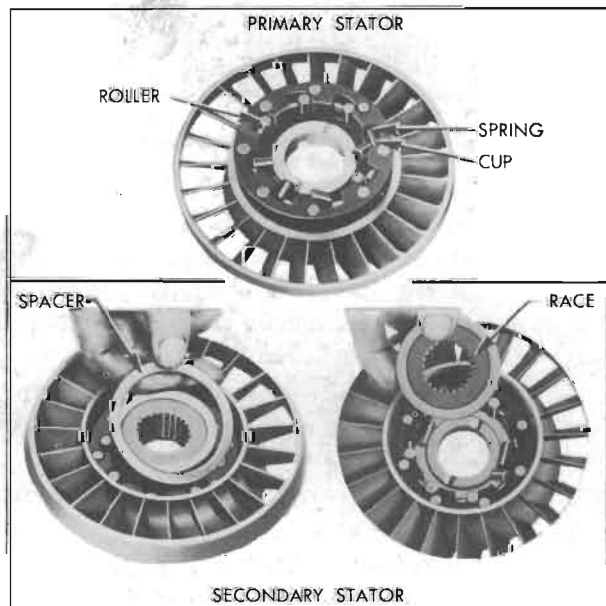

Figure 4-93—Free Wheeling Parts of Stators
2. Remove the free wheel race, which may be found in either stator, and remove the roller spacer from the secondary stator. See figure 4-93.
3. Remove the free wheel rollers, springs, and spring cups from both stators. Remove the roller assembling washer from primary stator. See figure 4-93.